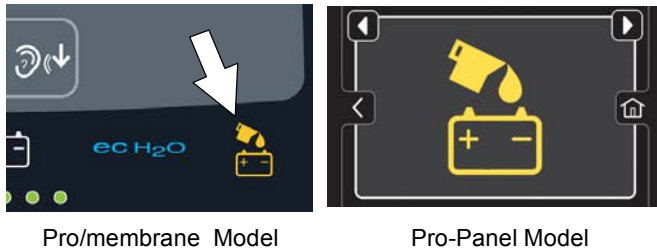

FIG. 35
- When the tank needs refilling, the automatic battery watering indicator will alert user to add distilled water (Figure 35). See CONTROL PANEL OPERATION for further details.